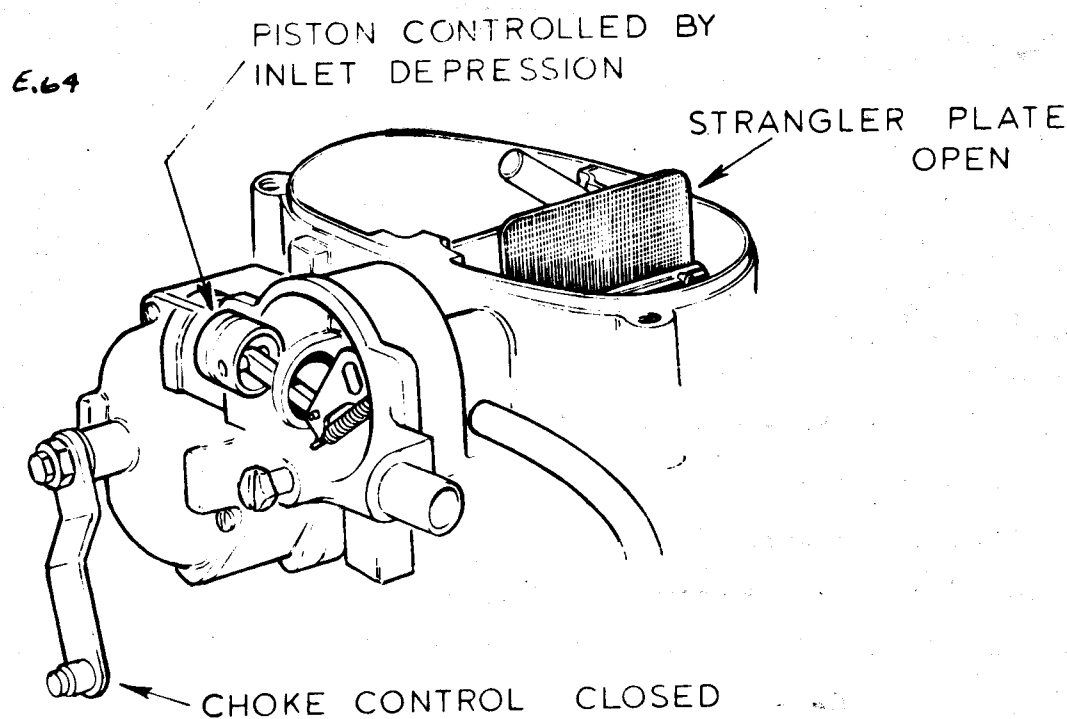

Fig. 17 Throttle Open - Choke closed
3. Normal running of the engine (Fig. 17)